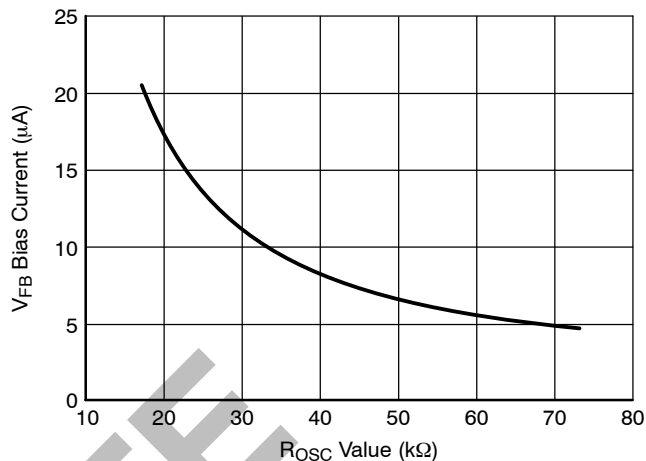

Figure 4. V_{FB} Bias Current vs. R_{osc} Value
- The V_{FB} Bias Current changes with the value of R_{OSC} per Figure 4.